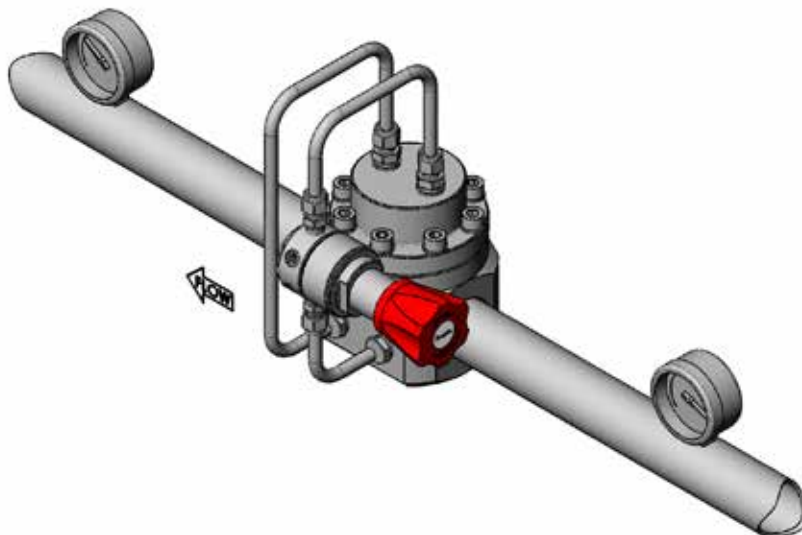
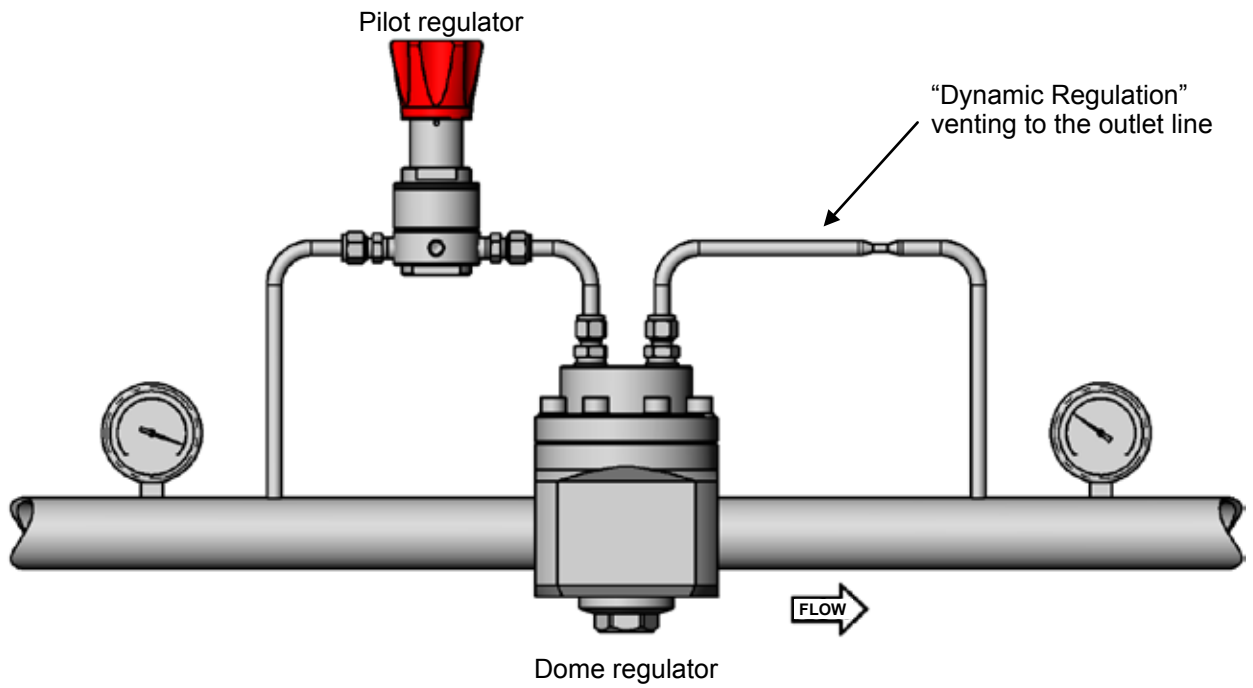

Fig 1
Fig 2
- The preferred mounting position of the regulator is horizontal with the dome facing upwards per Fig 1. Alternative mounting positions may increase the risk of component wear.
- **Integral pilot control.** In this setup the dome-loaded regulator comes supplied with a pilot regulator as part of the assembly (Fig 1). The pilot regulator, fed from the system pressure, is manually operated to control the dome pressure (Fig 2). This setup is not suitable for liquid applications.
The best performance will be achieved by allowing a small flow to continuously pass through the pilot regulator. This flow can either be vented through an orifice (Fig 3) or, in gas systems, fed back through an orifice into the downstream piping (Fig 2). This is usually referred to as “dynamic regulation”.